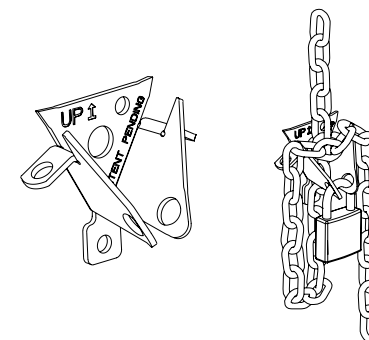

Figure 27
- Loop chain around keeper as shown. See Figure 27. Optional Padlock not provided.